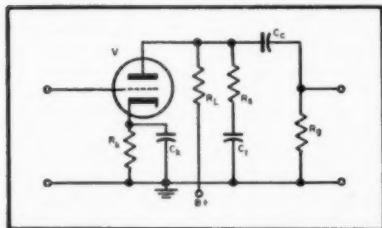

Fig. 4. Basic variable-load-impedance bass-boost amplifier circuit. Triode shown for simplicity.
A simple, commonly-used type of bass boost circuit is shown in Fig. 4. R_t , R_s , and R_p may be selected from resistance-coupled amplifier data to provide the maximum gain desired at the lowest frequency of interest. The requirements on C_e and C_k are the same as discussed for the basic amplifier in the degenerative-bass-boost circuit. The high-frequency gain is given by the product of the mutual conductance of the tube and a resistance equal to the parallel combination of the plate resistance of the tube, R_t , R_s , and R_p . The required value for C_t may be computed from Eq. (6) by substituting R_s for $R_t + R_s$. The maximum gain should be at least 6 db above, or two times greater than, that required for the greatest bass boost desired, if a 6 db per octave slope is to be followed to the lowest frequency of interest. A 6SJ7 operated to obtain a maximum gain of 200-46 db—will provide for a high-frequency gain of about three and